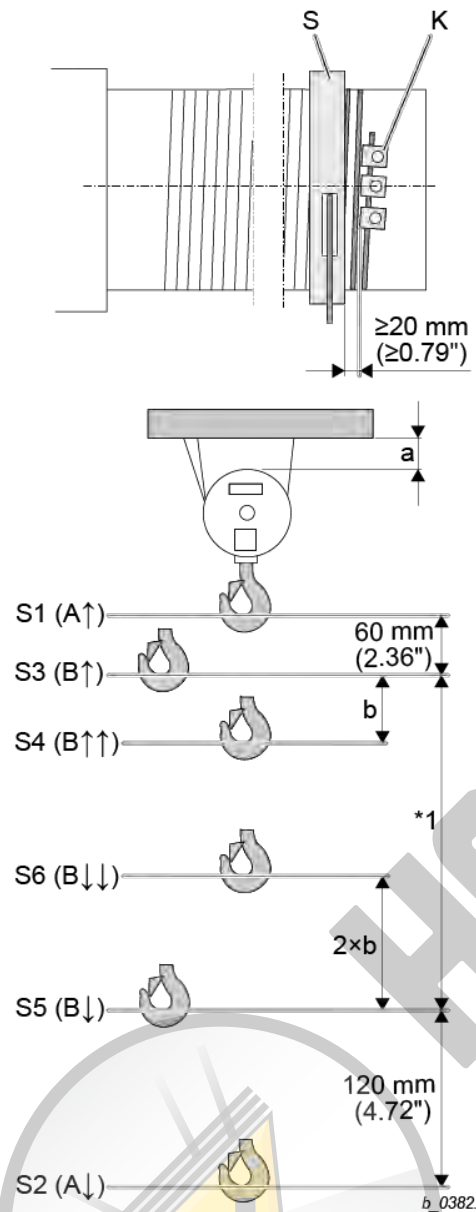

Fig. 79
8. Minimum clearance between rope guide (S) and clamping claws (K) for rope anchorage = 0.79 in, see Fig. 79, if necessary reset hoist limit switch (see page 72, section **7.10.6 "Setting hoist limit switch"**).